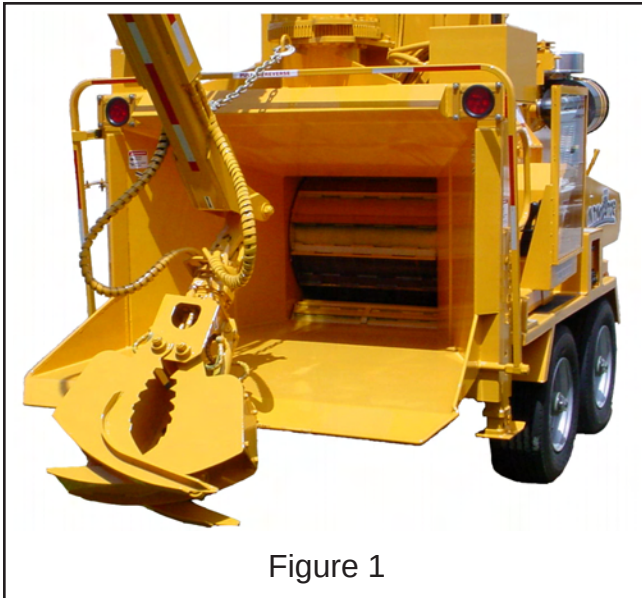
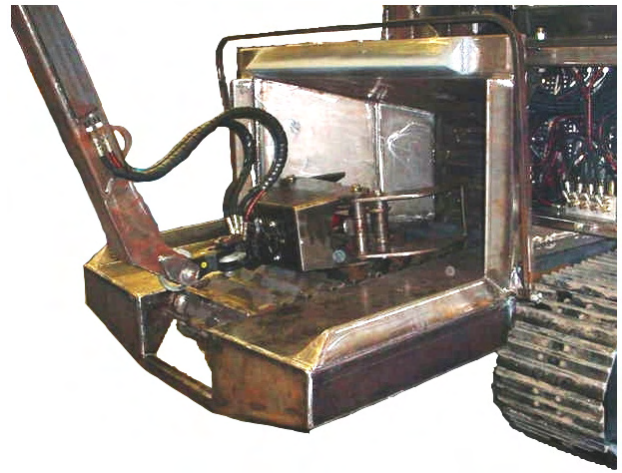

Figure 1
Figure 2
- 4) Tuck grapple onto infeed hopper as shown in Figure 1 to help prevent damage to the hydraulic hoses and fittings. If the machine is equipped with a conveyor option, tuck grapple onto infeed hopper as shown in Figure 2. Make sure the fittings and hoses are not in a pinched or wear position for transportation.
- 5) Securely attach transport chain to the jib boom as shown in Figure 1.